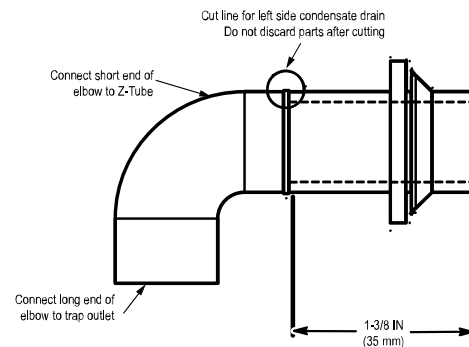

Fig. 17 – Modify Rubber Drain Elbow
3. The Z-pipe is connected to the condensate trap and the outside of the furnace by modifying the formed rubber drain elbow as shown in Fig. 17.
4. Remove the formed grommet from the rubber drain elbow by cutting the elbow along the vertical line located about 1-3/8 in. (35 mm) away from the formed grommet (Fig. 17). DO NOT DISCARD THE FORMED GROMMET OR THE RUBBER ELBOW. Both of these pieces will be used.
TIP FROM CONTRACTORS: When installing the furnace horizontally, use the entire drain elbow (that is, do **NOT** cut as shown in Fig. 17) to connect the trap to the drain line. This helps to prevent bumps and shocks to the drain line from damaging the furnace drain trap. Avoid misalignment of the drain pipe which may cause kinks in the elbow.